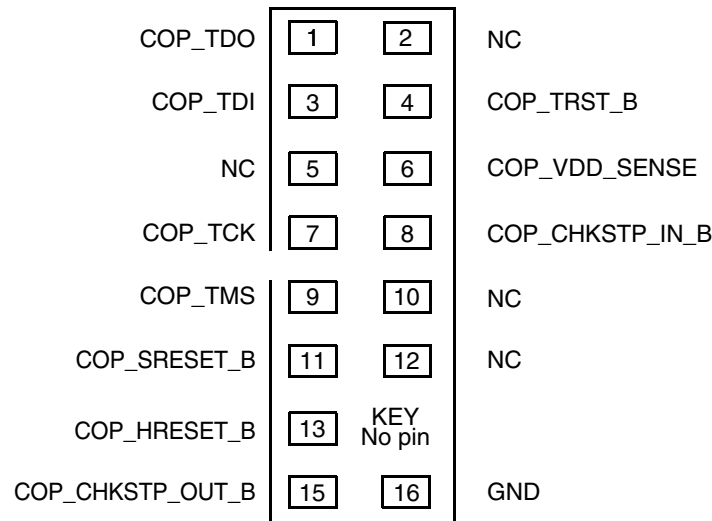
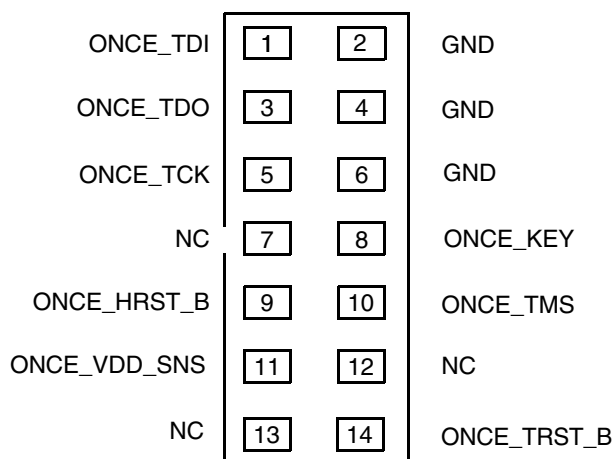

Figure 54. COP Connector Physical Pinout
Figure 55. ONCE Connector Physical Pinout
Correct operation of the JTAG interface requires configuration of a group of system control pins as demonstrated in Figure 54. Care must be taken to ensure that these pins are maintained at a valid deasserted state under normal operating conditions, because most have asynchronous behavior, and spurious assertion gives unpredictable results.
The COP function of the processor allow a remote computer system (typically, a PC with dedicated hardware and debugging software) to access and control the internal operations of the processor. The arrangement shown in Figure 54 and Figure 55 allows the COP/ONCE port to independently assert HRESET_B or TRST, while ensuring that the target can drive HRESET_B as well.
The COP interface has a standard header for connection to the target system. The 16-pin PA COP connector is shown in Figure 54.
The ONCE interface also has a standard header for connection to the target system. The 14-pin DSP ONCE connector is shown in Figure 55.
- TRST_B should be tied to HRESET_B through a 0 k Ω isolation resistor so that it is asserted when the system reset signal (HRESET_B) is asserted, ensuring that the JTAG scan chain is initialized during the power-on reset flow. Freescale recommends that the COP header be designed into the system as shown in Figure 54. If this is not possible, the isolation resistor allows future access to TRST_B in case a JTAG interface may need to be wired onto the system in future debug situations.